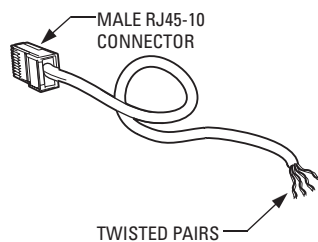

Figure 6. Interface Cable
You can plug the male RJ45-10 connector (also known as an RJ-50 connector) on the supplied interface cable (refer to Figure 6) into the mating connector on top of the dome drive and then connect your wiring to the other end of the cable.
Refer to Figure 6, Table D, Table E, and Table F for wiring connections. Note that you can connect video using either an unshielded twisted pair (UTP) of wires (refer to Table D) or coaxial cable (refer to Table E.) A BNC connector for coaxial cable is attached to the dome drive.
- a. Plug the male RJ45-10 connector (also known as an RJ-50 connector) on the supplied interface cable (refer to Figure 6) into the mating connector on top of the dome drive.